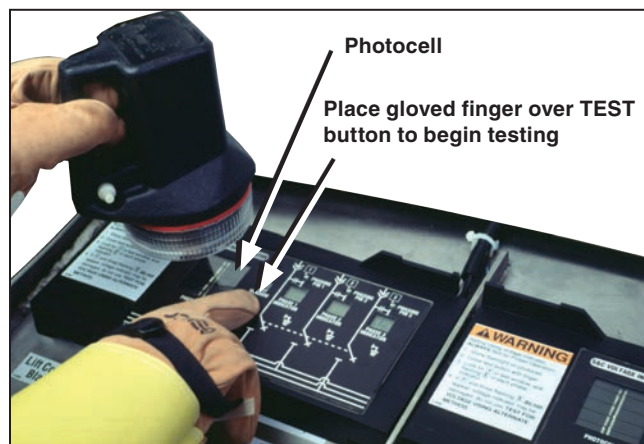

Figure 32. Test the VOLTAGE indicator by shining flashlight above the photocell and covering Test button with a gloved finger.
- (a) Shine a flashlight approximately 4 inches (102 mm) above the photocell, and simultaneously cover the test button with a gloved finger. See Figure 32. When the sun is shining brightly, it can be used to power the test circuit.